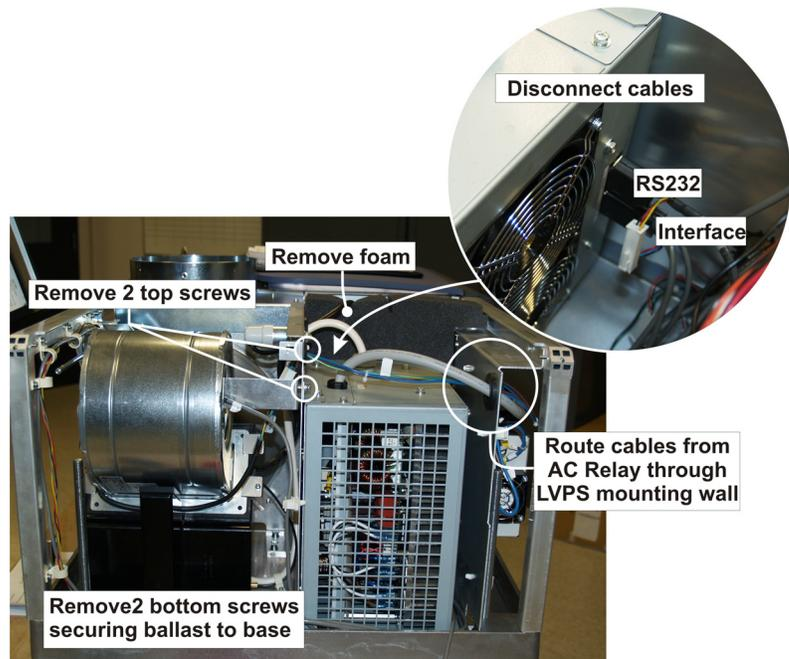

FIGURE 1-37
15. Remove 4 screws (#3 Phillips) securing the lamp ballast to the firewall and projector base. (Figure 1-37)
16. Remove the two connections (RS232 and Interface) from the front of the ballast. (Figure 1-37)